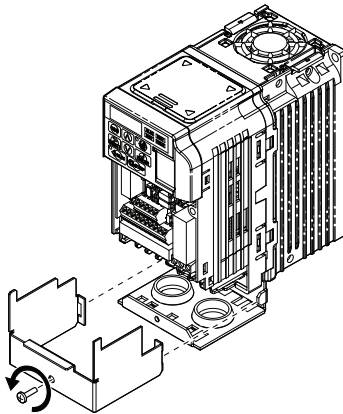

Figure 9 Remove the NEMA Type 1 Terminal Cover
6. For IP20/NEMA Type 1 enclosure models CIMR-V□□A□□□□F, loosen the screw on the front of the NEMA Type 1 terminal cover and remove it from the drive. Refer to Figure 9 for details.